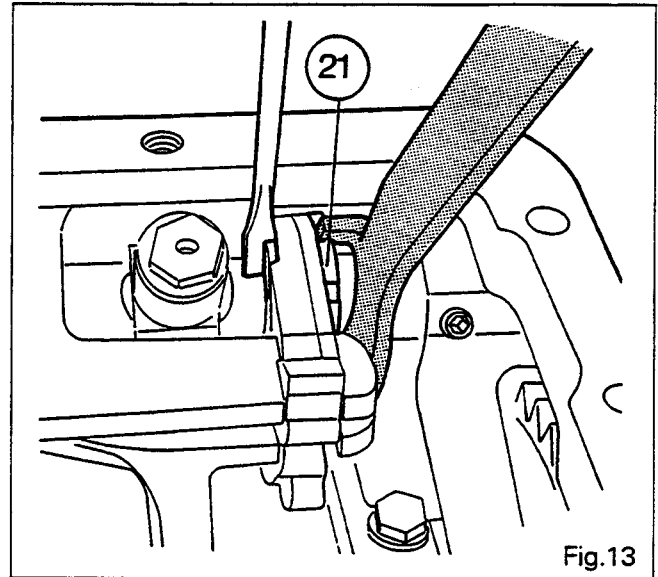

Fig. 13
- 52\* Temporarily refit the setscrew (8).
53. Loosen the castellated nut (21) using the special wrench, 3615334 M01 (Fig. 13), and see Part C.